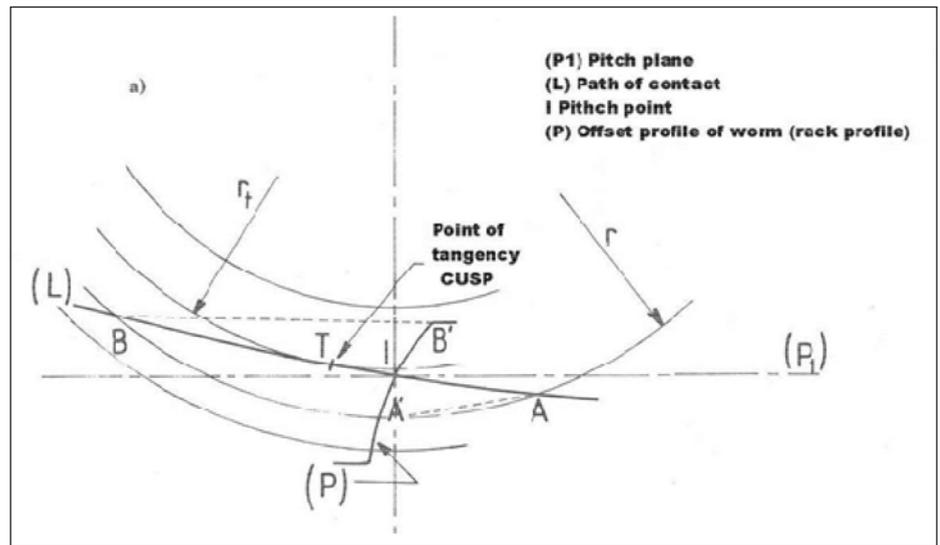

Figure 7 Cusp effect to limit path of contact to AT.
- a. Either by the presence of cusp (Fig. 7) when the path of contact is very flat when the pressure angle decrease and the contact exist only between A and T.